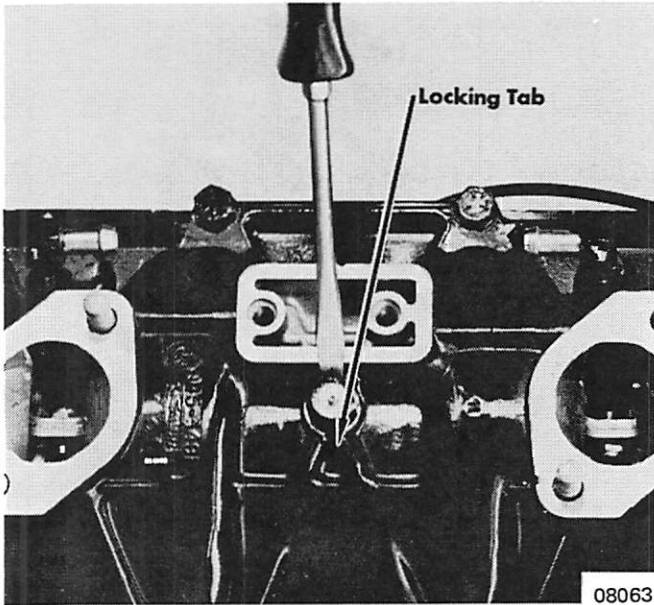

Figure 1. Center Main Locking Tab
1. Bend center main locking tab (2 on 6-cylinder models). (Figure 1) Loosen crankcase cover bolts and place powerhead on bench.